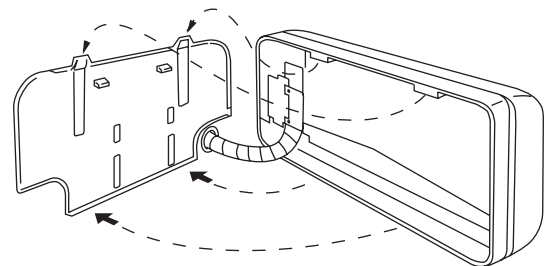

Fig. 36
- (2) Push the wiring, refrigerant tubing, and drain hose through the hole in the wall. Adjust the indoor unit so it is securely seated on the rear panel. (Fig. 36)
- (3) Carefully bend the tubing (if necessary) to run along the wall in the direction of the outdoor unit and then tape as far as the fittings. (See Caution on page 15 in the outdoor unit installation manual.) The drain hose should come straight down the wall to a point where water runoff won't stain the wall.